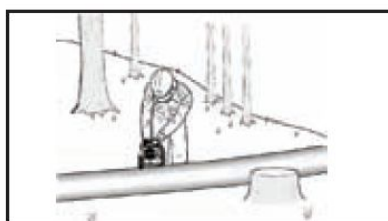

Fig. 4D
4. When bucking on a slope always stand on the uphill side of the log, as illustrated in Fig. 4D. When "cutting through", to maintain complete control release the cutting pressure near the end of the cut without relaxing your grip on the chain saw handles. Don't let the chain contact the ground. After completing the cut, wait for the saw chain to stop before you move the chain saw. Always stop the motor before moving from tree to tree.